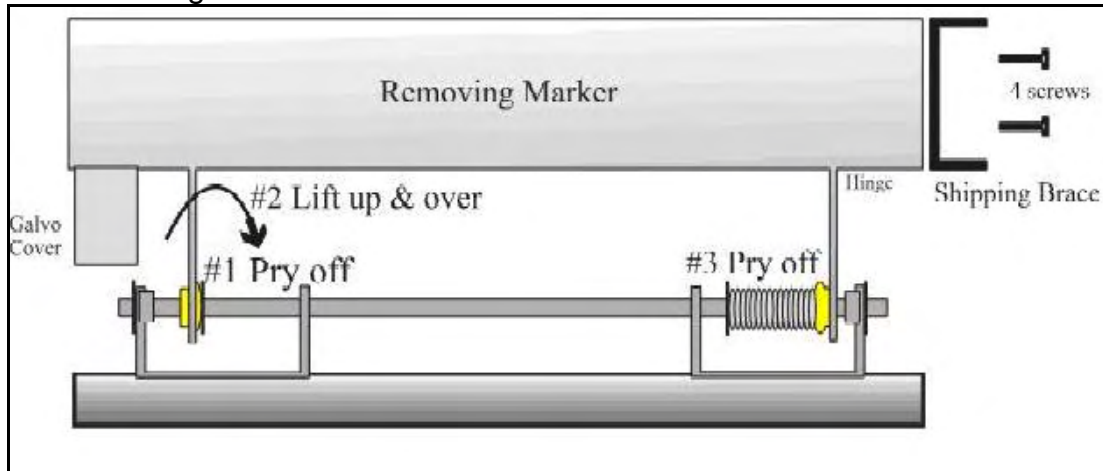

Figure 1 – Marker Assembly front view
1. Install the shipping brace from the new marker on this one before removing it from the PlateStream. (see **Figure 1**)
will pull the marker to the right. Place the left hinge on the support post. (see **Figure 1**)